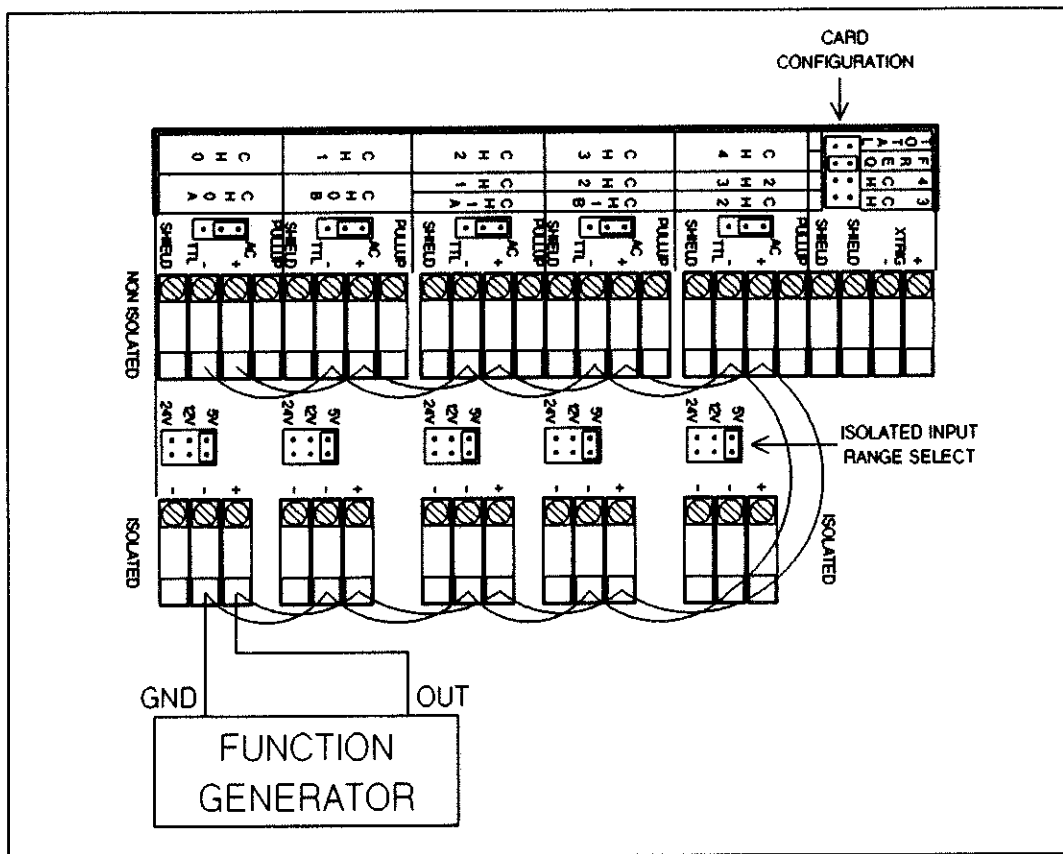

Figure 11-8 Frequency Test
3. Connect the function generator to the shorted "+" and "-" inputs of the Isolated and Non-Isolated channels. The connections are shown in Figure 11-8.
4. Refer to Figure 11-8. Set the Non-Isolated Input jumpers to AC and set the Card Configuration jumper to FREQ.